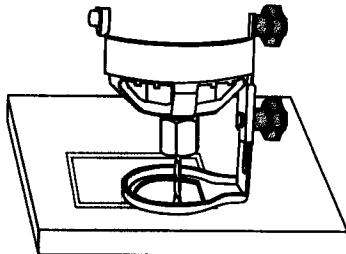

Fig. 7
7. When the motor is up to full speed, slowly tip the tool to an upright position, letting the bit cut into the workpiece (see Fig. 7). Once the tool has reached the upright position and the bit has cut through the workpiece, slowly move the tool in a clockwise direction using slow steady pressure to make the cut.